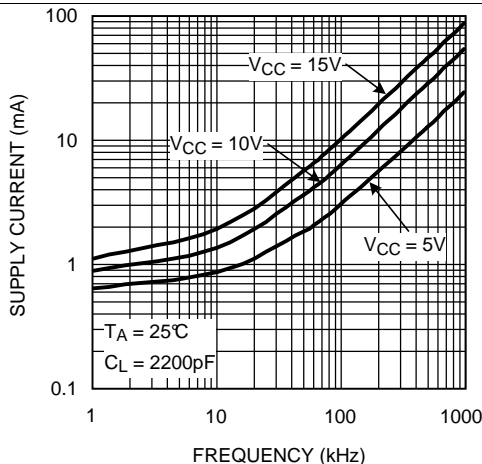
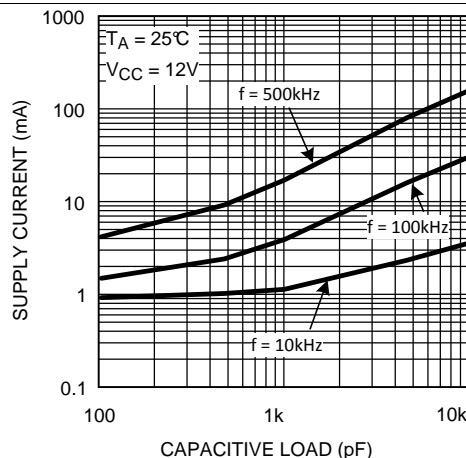

**Figure 1. Inverting**
**Figure 2. Noninverting**
(1) See Figure 1 and Figure 2.